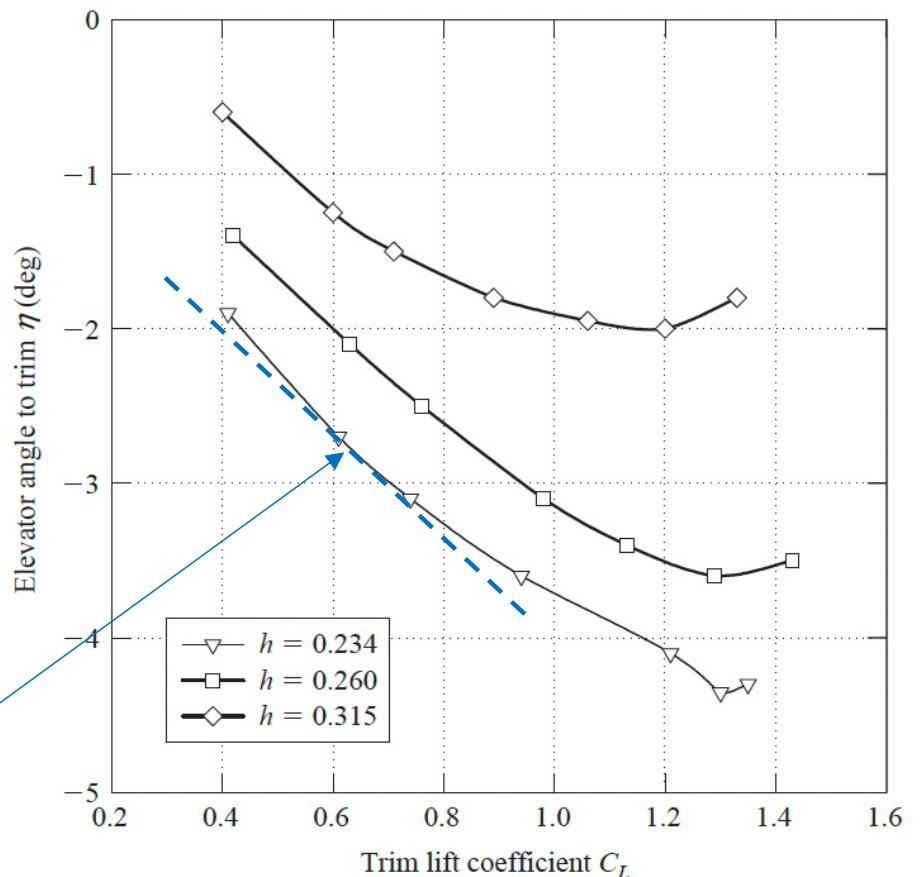

Figure 3.10 Plot of elevator angle to trim.
2. A flight test exercise conducted in a Handley Page Jetstream by the author (*Flight Dynamics Principles*), under these conditions, provided the trim data plotted in Fig. 3.10 for **three different cg positions**.
1. Since the gradients of the plots shown in Fig. 3.10 **are all negative** the aircraft is **statically stable** in accordance with 'equation (3.20)'.